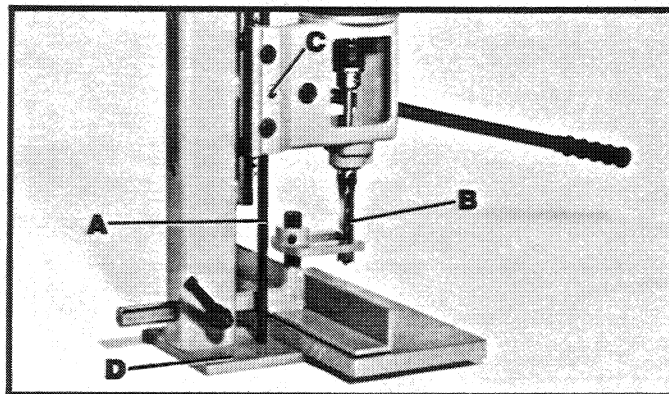

Fig. 22
A depth stop rod (A) Fig. 22, is provided to limit the depth of the chisel (B). To adjust the depth stop rod (A), loosen screw (C) and lower head until the bottom of the chisel (B) is at the desired depth. Lower depth stop rod (A) until it contacts base plate (D) and tighten screw (C).